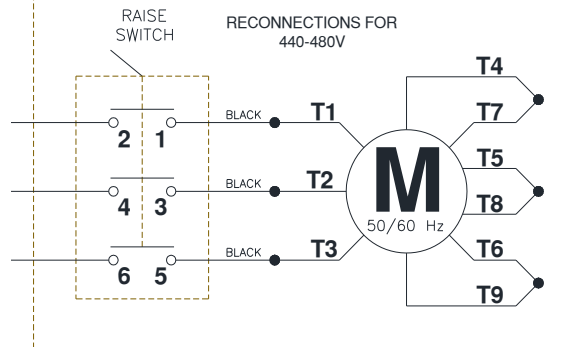

Fig 13 – Electrical Wiring Diagram
- 39) Connect the Overhead Limit Switch Cord to Power Unit as shown in **Fig 13**.
- 40) Connect Power Unit to suitable electrical source as shown in **Fig 13**.